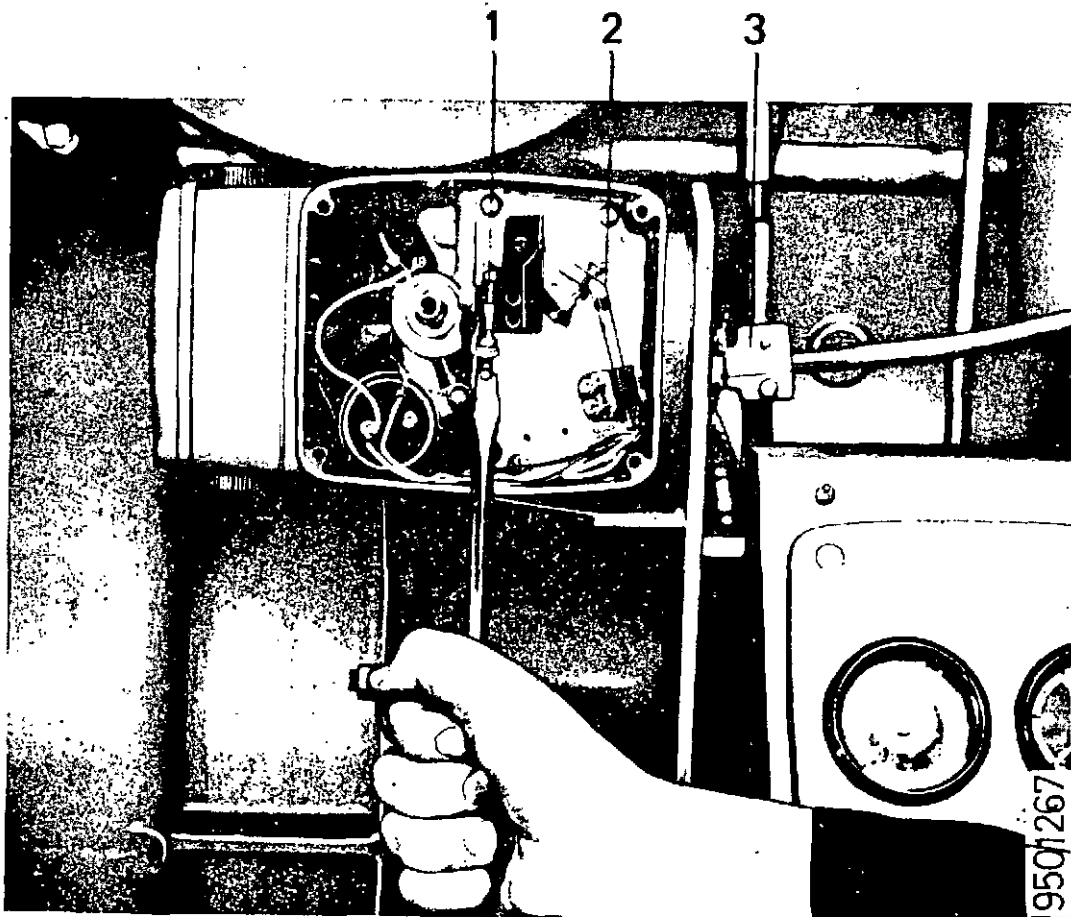

Fig. 3
N.B. Never re-set the contacts for the end position switch contacts (2, fig. 3). They are correctly set before delivery and must not be altered when re-setting the control motor movement.